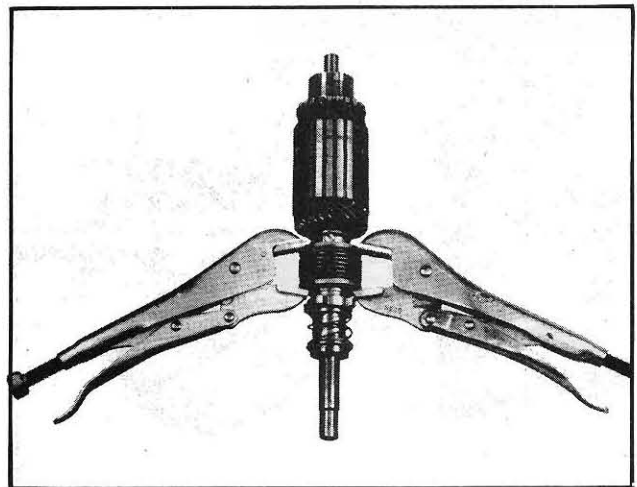

Fig. 180
4. Remove the snap ring from the pinion and barrel assembly and remove the thrust washer and pinion and barrel assembly. The remainder of the Bendix Drive can be removed from the armature shaft by moving the lock ring until the pilot screw is exposed, compressing the spring and anchor plate and removing the screw, see Fig. 180. The drive assembly can then be slipped off the shaft.